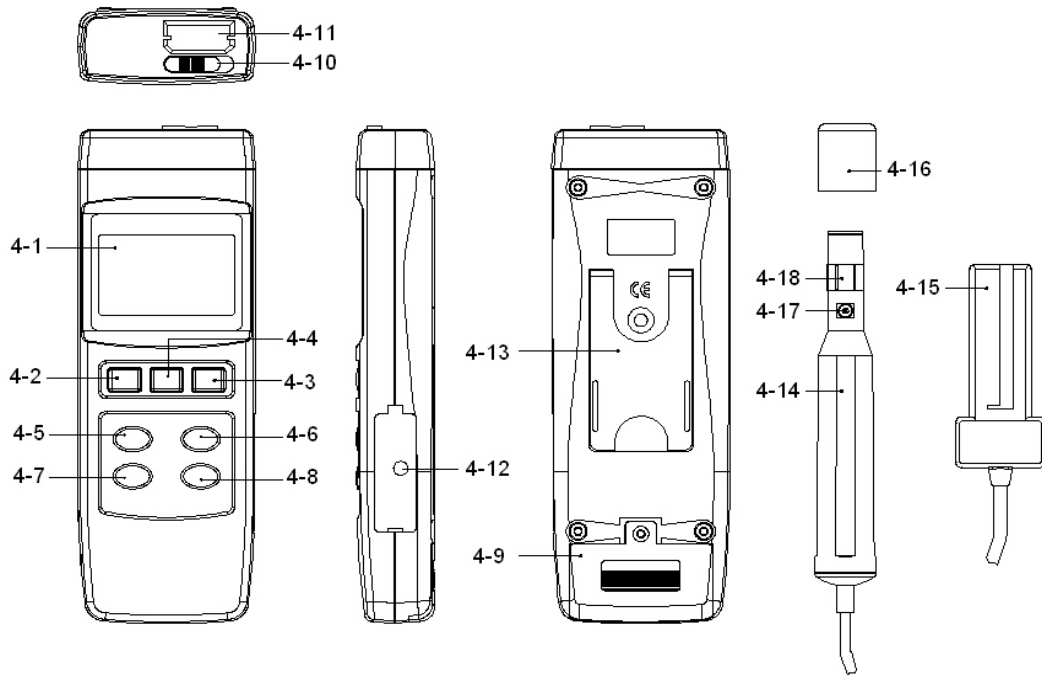

Fig. 1
- 1) Connect the " Probe Plug " (4-15, Fig. 1) into the " Probe Input Socket " (4-11, Fig. 1)
Make sure that the " Lock Switch " (4-10, Fig. 1) is in the lock position ().
- 2) Power on the instrument by pushing the " Power Button " (4-2, Fig. 1).
- 3) Push the " O2 mg/L Button " (4-6, Fig. 1) to select the " % O2 " function, the display will show the symbol of " % O2 "
- 4) Push the " Zero Button " (4-7, Fig. 1) once, the LCD will show zero value and then display the " Air Oxygen " value.
Push the " CAL Button " (4-8, Fig. 1) then the display will show the values exact same as 20.9 or 20.8. (As the oxygen in air is 20.9 % typically, so use this data for quick & precise calibration).
- 1) After the meter be calibrated (above procedure 5-1), now the meter is ready for Dissolved Oxygen (DO) measurement.
- 2) Push the " O2, mg/L Button " (4-6, Fig. 1) to select the " DO " function, the display will show the symbol of " mg/L " .
- 2) Push the " O2 mg/L Button (B Button) " (4-6, Fig. 1) to select the " % O2 " function, the display will show the symbol of " % O2 "
During the measurement, the lower LCD Display will show the temperature values of measuring solution. Push the " °C/°F Button " (4-5, Fig. 1) once will change the temperature display unit from " °C to °F " or " °F to °C ".
Press the " Hold Button " (4-4, Fig. 1) will hold the measured value & the LCD will indicate a " HOLD " symbol on the display during the measuring.
- * The data record function records the maximum and minimum readings. Press the " REC. Button " (4-3, Fig. 1) to start the Data Record function and there will be a " REC " symbol on the display.
- a) Press the " REC. Button " (4-3, Fig. 1) once, the " REC Max " symbol along with the maximum value will appear on the display.
If intend to delete the maximum value, just press the " Hold Button " (4-4, Fig. 1) for a while, and then the display will show the " REC " symbol only & execute the memory function continuously.
- b) Press the " REC. Button " (4-3, Fig. 1) again, the " REC Min " symbol along with the minimum value will appear on the display.
If intend to delete the minimum value, just press the " Hold Button " (4-4, Fig. 1) for a while, and then the display will show the " REC " symbol only & execute the memory function continuously.
To disable this function, Select the memory record function during the measurement by pressing the " REC. Button " (4-3, Fig. 1).
The instrument features RS232 output via 3.5 mm Terminal (4-12, Fig. 1).
- 2) Slide the " Battery Cover " (4-9, Fig. 1) away from the instrument and remove the battery.